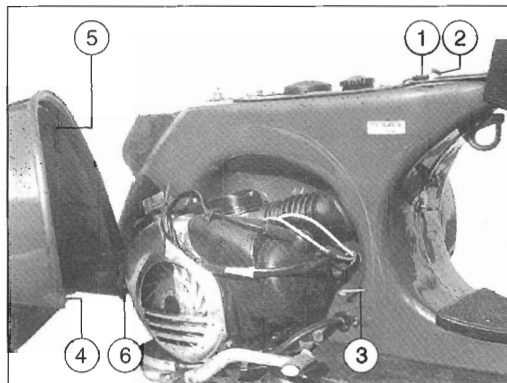
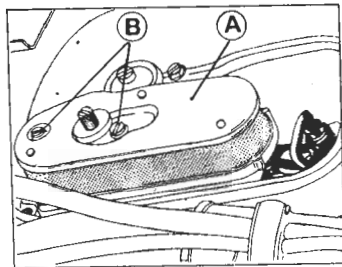
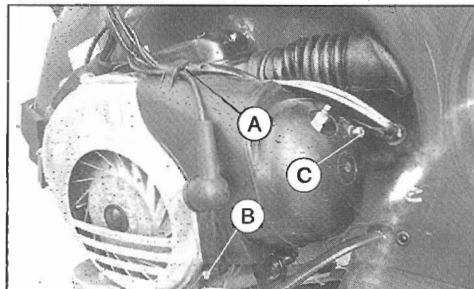

Fig. 25
Fig. 26
Fig. 31
**AIR CLEANER :** For removing the air cleaner 'A' (fig. 26) remove the engine cowl (fig. 25) and air cleaner case cap. Unscrew the two screws 'B' and take out the air cleaner.
Remove the engine cowl, (fig. 25) and disconnect the HT lead, dismantle the 'cooling hood' (fastening 'A'-'B'-'C' fig.31) and unscrew the 4 nuts using the tool kit wrench.